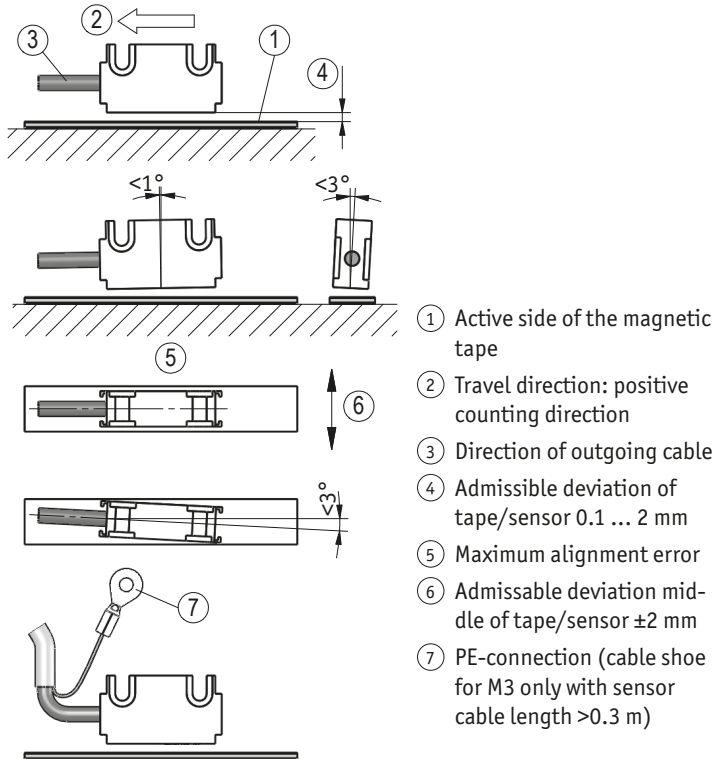

Fig. 7: Definition of the counting direction with magnetic tape and assemblage sensor / magnetic tape, gap measure, tolerances
- ▶ Take care that the magnetic sensor is aligned correctly in order to ensure optimum sensing (see Fig. 7).
With sensor cable lengths >0.3 m the display's housing and the PE-connection near the sensor (see Fig. 7) must be properly earthed!